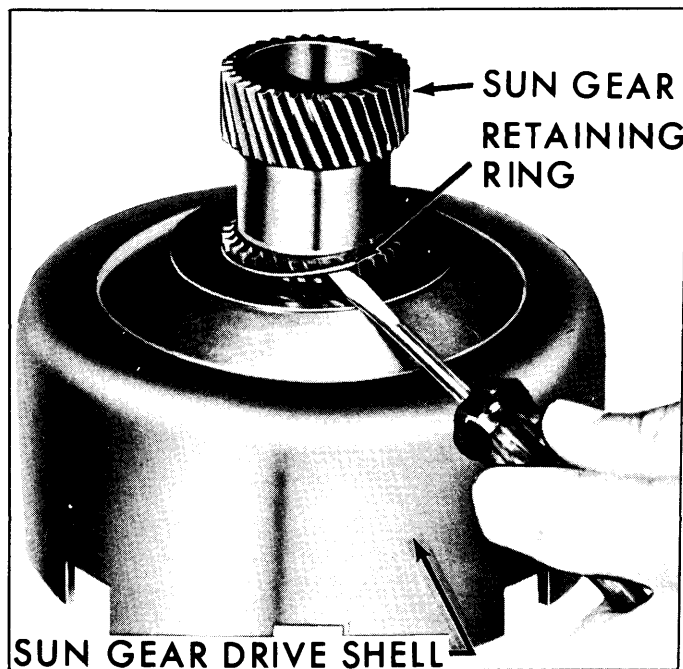

Fig. 7-88—Removing Sun Gear Shell REar Retaining Ring
1. Remove sun gear to sun gear drive shell rear retaining ring. (Fig. 7-88)